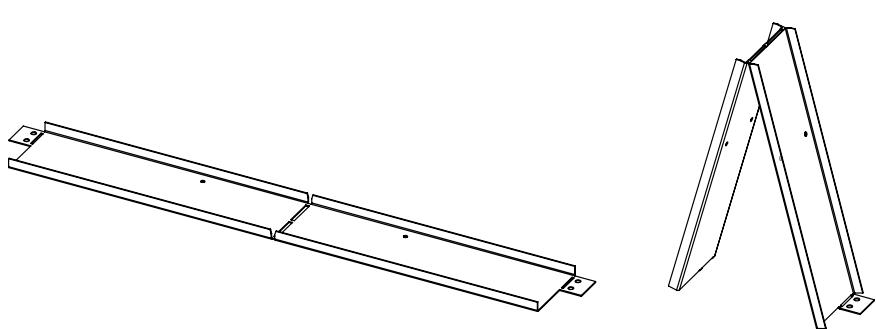

Figure 31: Top Standoff Shape
1. Bend top standoffs by hand to form general shape (see Figure 31).